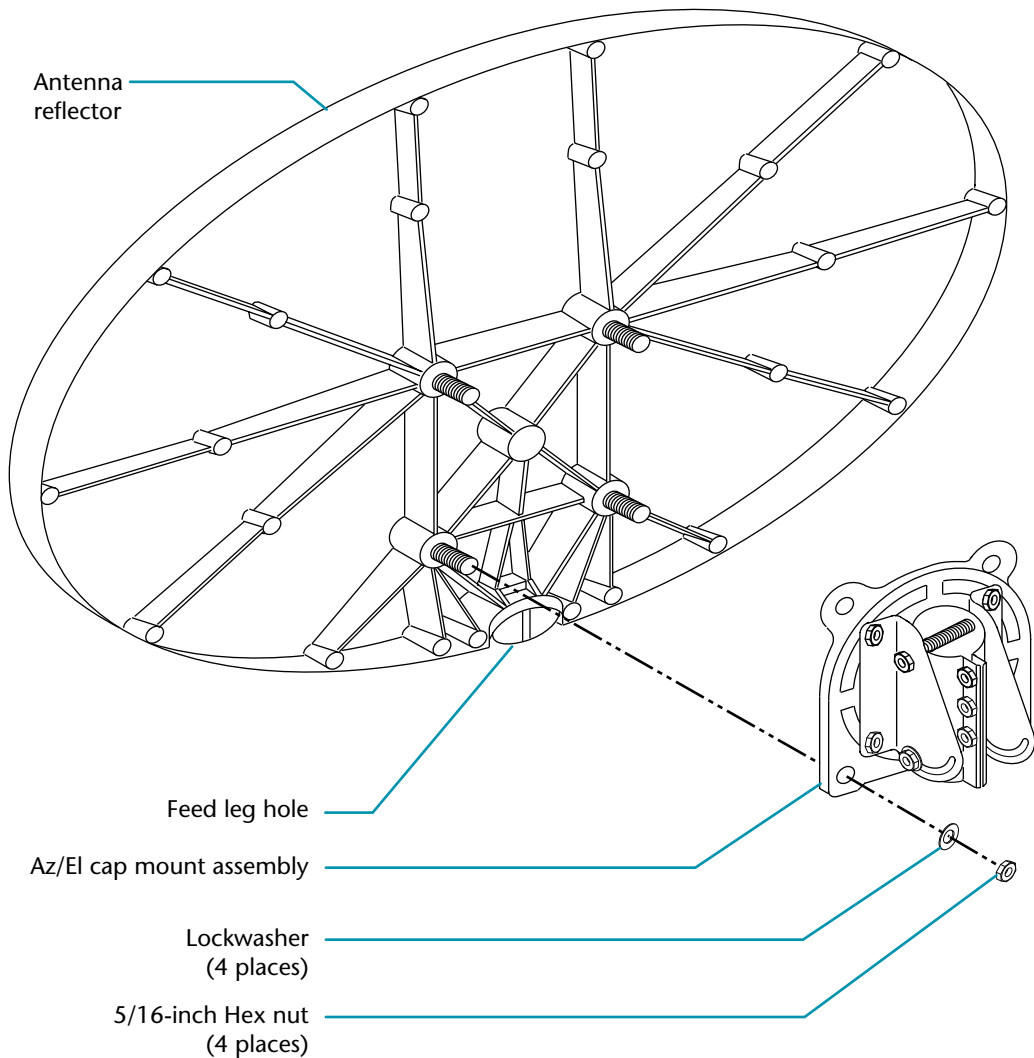

Figure 4-48. Assembling antenna reflector onto AZ/EL cap mount
1. Insert the four threaded studs on back of antenna reflector through corresponding holes on AZ/EL cap mount assembly (see figure 4-48).
Verify that feed leg hole is oriented downward as shown in figure 4-48.